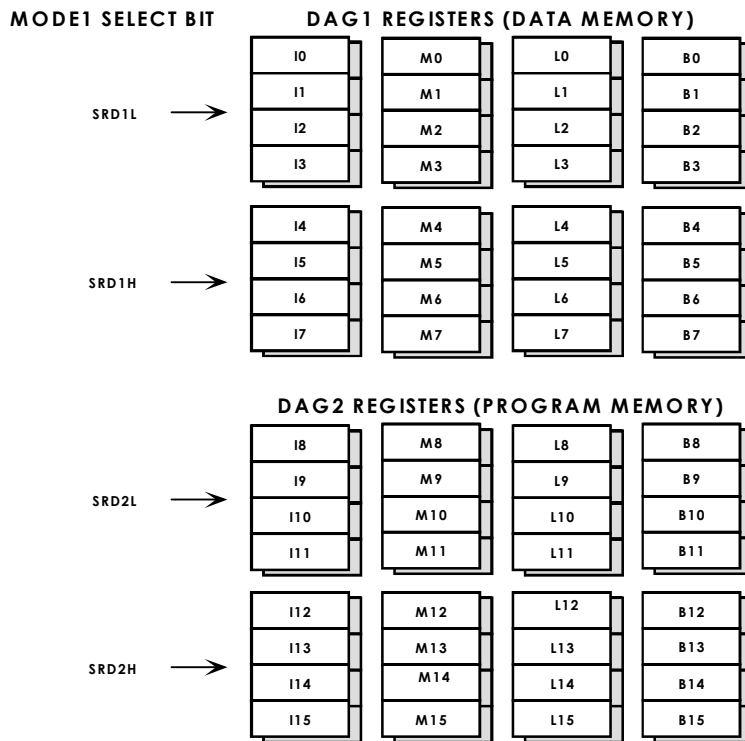

Figure 4-2. Data Address Generator Primary & Alternate Registers
Bits in the `MODE1` register can activate alternate register sets within the DAGs: the lower half of DAG1 (`I,M,L,B0-3`), the upper half of DAG1 (`I,M,L,B4-7`), the lower half of DAG2 (`I,M,L,B8-11`), and the upper half of DAG2 (`I,M,L,B12-15`). Figure 4-2 shows the DAG’s primary and alternate register sets.
Modify (M) registers can work with any index (I) register in the same DAG (DAG1 or DAG2). For a list of I and M registers and their DAGs, see Figure 4-2 on page 4-7.